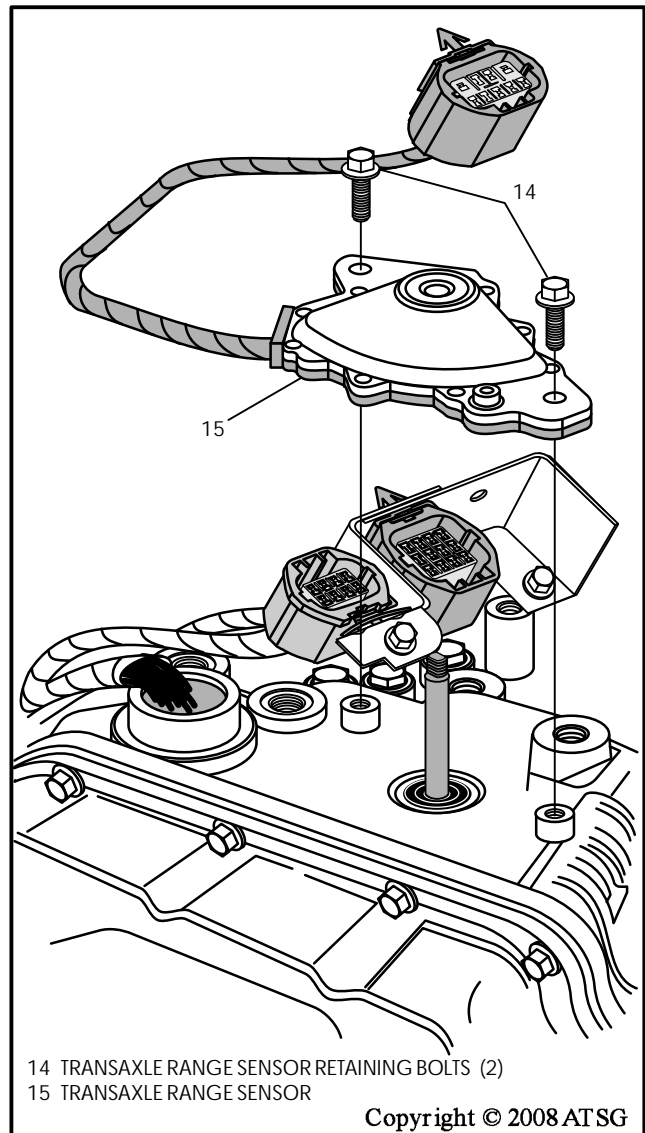

Figure 238
1. Install the transaxle range sensor, as shown in Figure 238, and hand tighten only the retaining bolts.